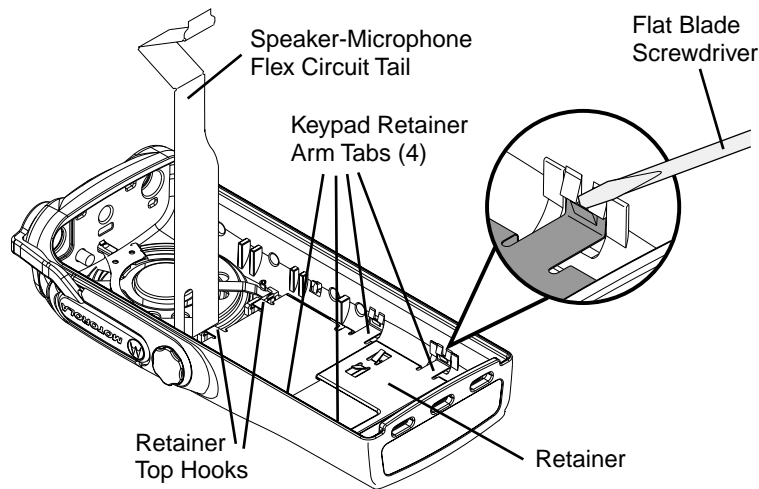

Figure 3-6. Retainer Removal
1. If the disassembly of the keypad or the keypad printed circuit board, is required, lift the microphone flex circuit up, and carefully remove the microphone and its boot from the front cover pocket as shown in Figure 3-6.